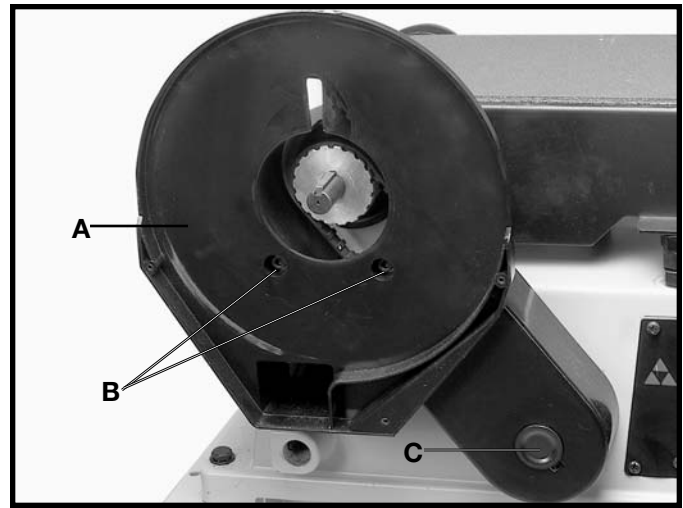

Fig. 8
Assemble belt and pulley guard (A) Fig. 8, to the machine using two M6 x 55mm hex socket head screws (B), M6.4 lockwashers and M6.4 flat washers as shown. **NOTE:** Make certain plug (C) is installed into guard.